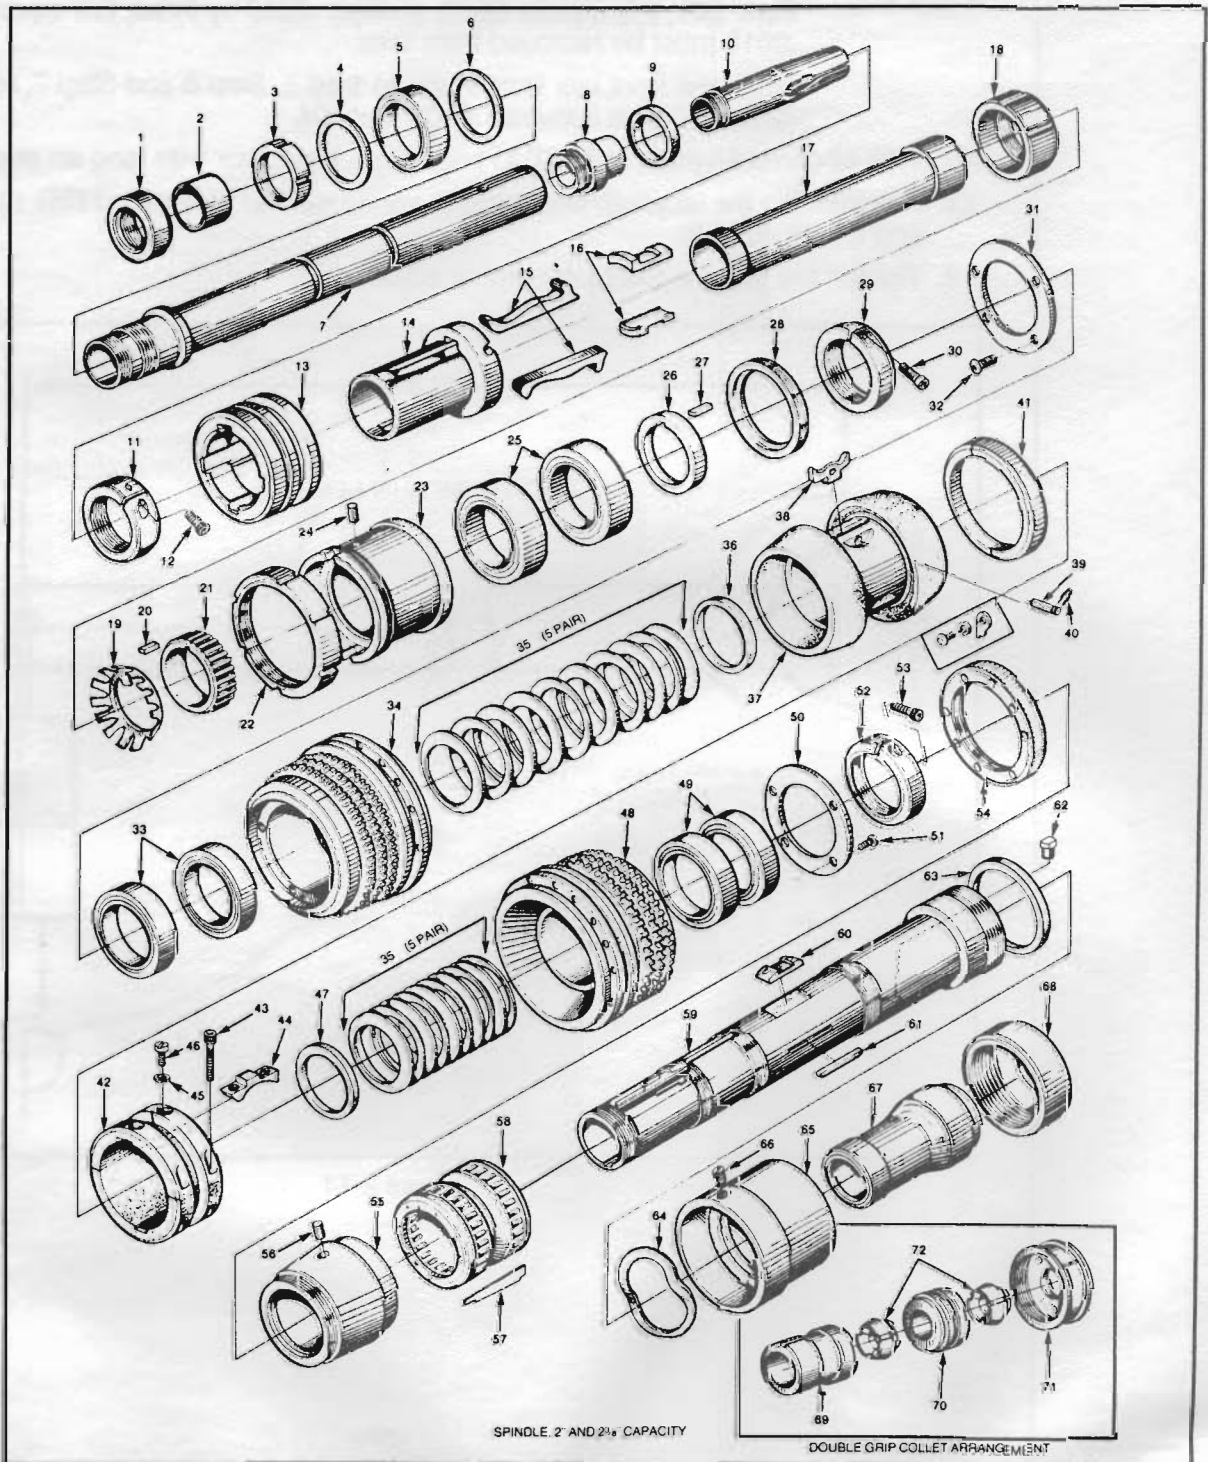

Figure 2-13
To set the spindle lift on 2" and 2³/₈" machines refer to Figures 2-13, 2-14, and 2-15 and proceed as follows:
2. In Figure 2-13, loosen the nut (22), and remove the chuck nut (68), the sleeve (67), the guard (65), the washer (64) and the labyrinth washer (63).
3. Loosen nut (54) a couple of turns. Using a brass drift and hammer tap the nut lightly to the right. This will release the liner for easy removal.
4. If a new liner (57) is to be used, grind both sides to a final thickness of .093" - .094".